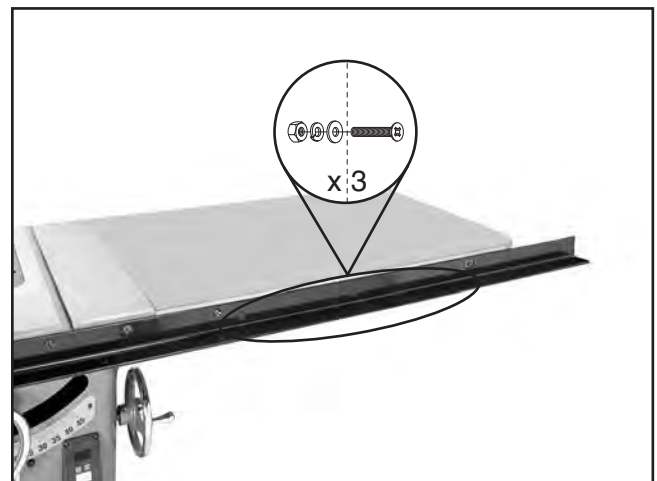

Figure 16. Front rail/table fastener locations.
5. While an assistant holds the extension table, fasten the 91½" front rail to the extension table with (3) M8-1.25 x 25 flat head screws, 8mm flat washers, 8mm lock washers, and M8-1.25 hex nuts (see **Figure 16**). Finger-tighten for now.